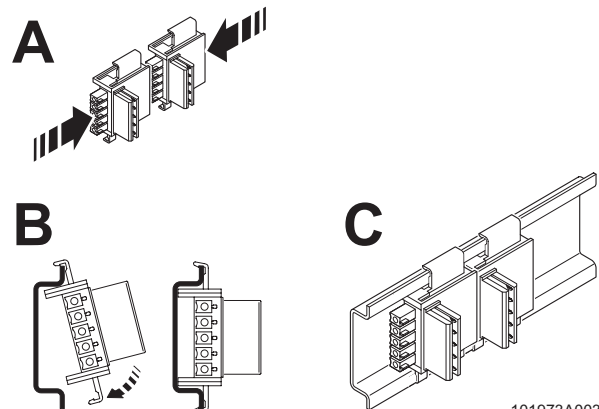

Figure 7 Combined assembly
- Connect together the required number of DIN rail connectors for the connection station. Two DIN rail connectors are required for each device (see A in Figure 7). A maximum of ten devices are permitted in a connection station.
- Place the device onto the DIN rail from above. The upper holding keyway of the device must be hooked onto the top edge of the DIN rail (see Figure 7). Make sure that it is aligned correctly with the DIN rail connectors.